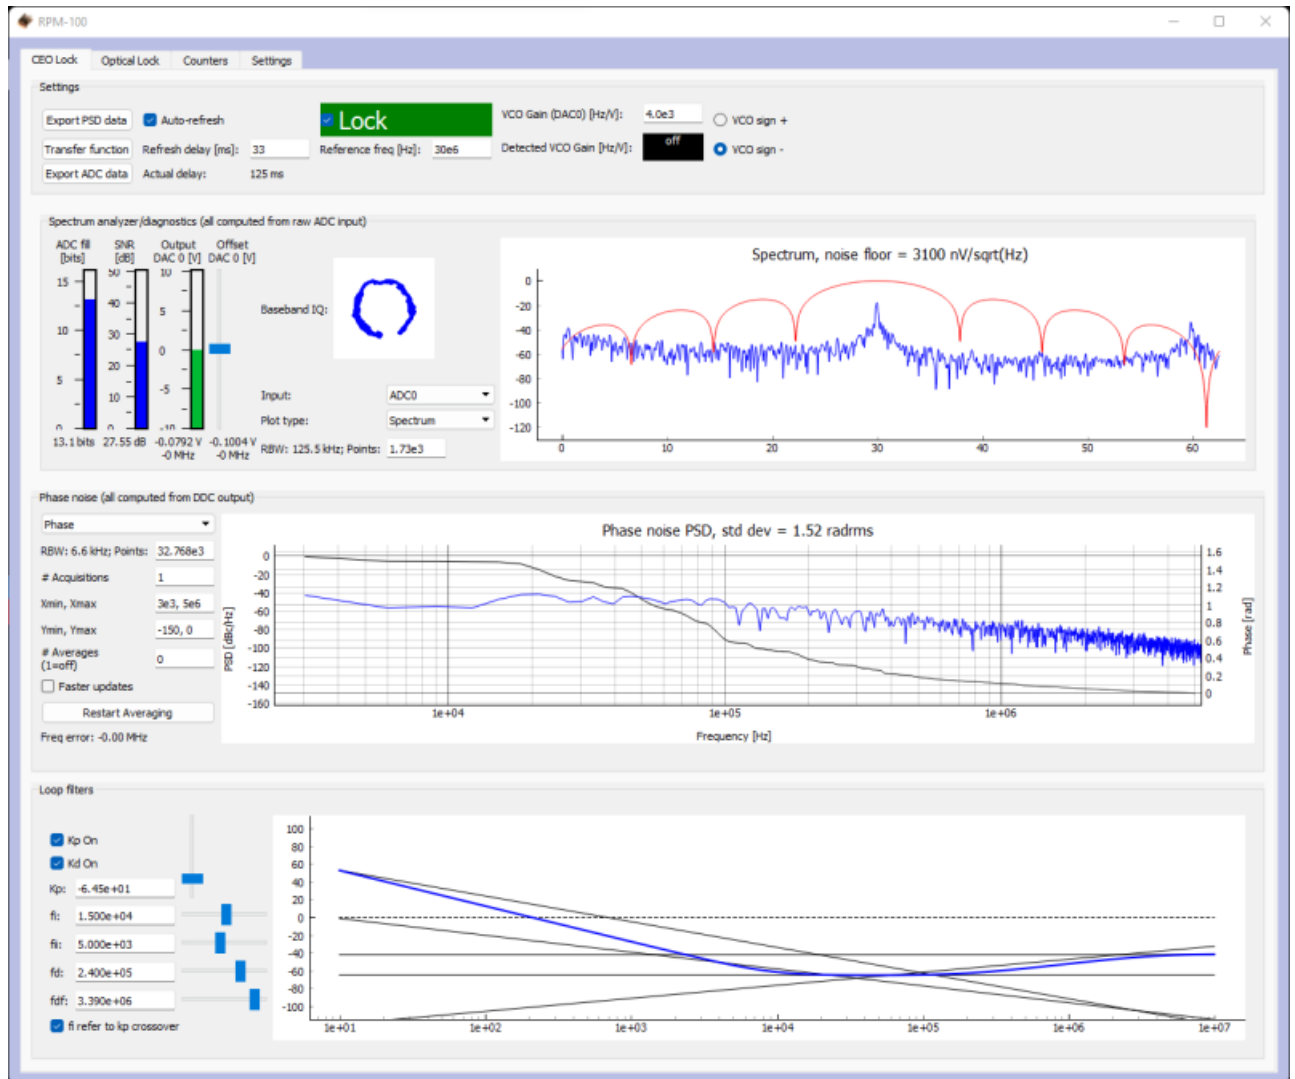

Fig. 10: Locking f(CEO)
- Press the "Lock" button (figure 10, top middle). If the system doesn't lock, change the VCO sign to the opposite polarity (top right) and try again. A warning may occur if the selected VCO sign is incorrect. If the system still won't lock, try lowering the K_p value (bottom left).